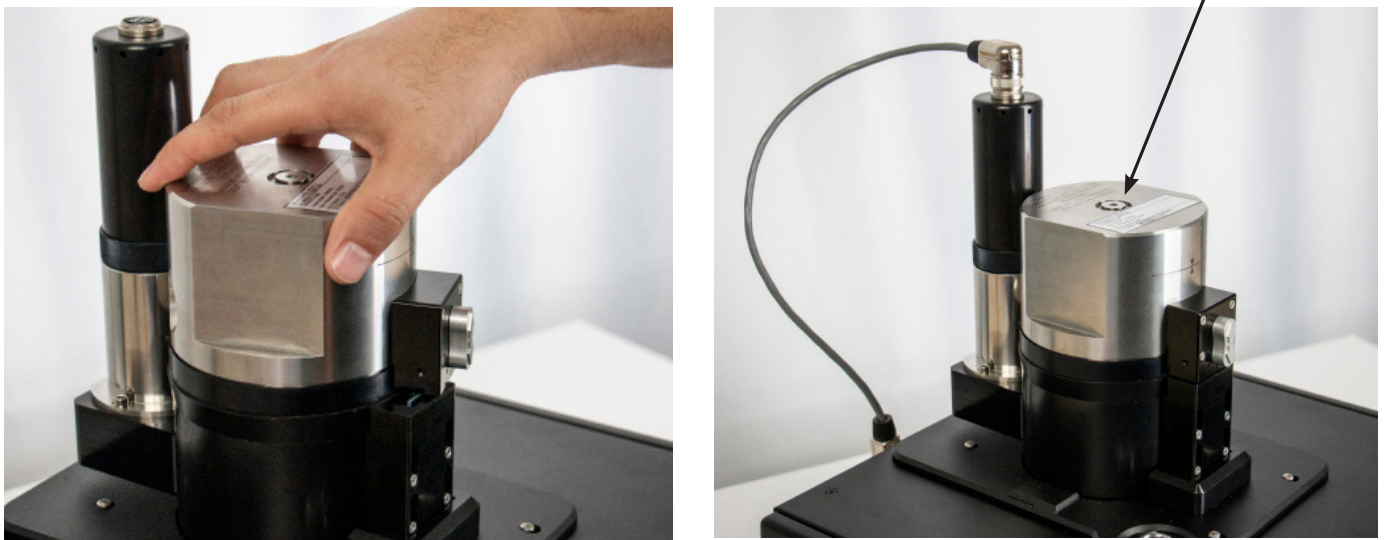

Figure 5.4.2-E Securing the Head
- For CPS8500G measuring heads greater than or equal to 10 bar measuring range (Kn with 1 bar/ Kg or higher), the head needs to be lubricated with oil. Using a syringe, add lubrication oil to the head by unscrewing the 7/16\"-20 SAE plug on top of the CPS8500G (Figure 5.4.2-F). The level of the sebacate/drosera oil needs to meet the requirements below. For normal operation and lubrication of the piston inside the measuring head, it is recommend that the oil is visible from the top port.